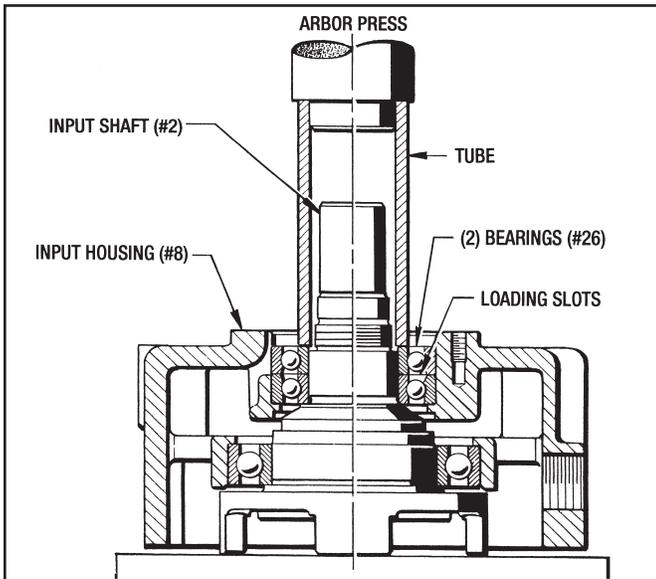

Figure 9.4 - Pressing Bearings (#26) into Input Housing
3. Set the Input Housing Subassembly into an Arbor Press as shown in Figure 9.4. Using an appropriate size tube, press on the inner race of the first Bearing (#26) until it bottoms out. **(Do not press on the bearing cage of the outer race.)** Press the second Bearing (#26) onto the Input Shaft until it is flush with the first Bearing.